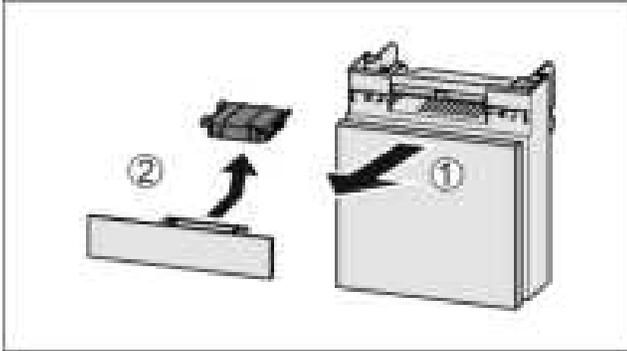

Fig. 159
- ▶ Pull out the compartment Fig. 159 (1).
- ▶ Remove the carbon filter Fig. 159 (2).